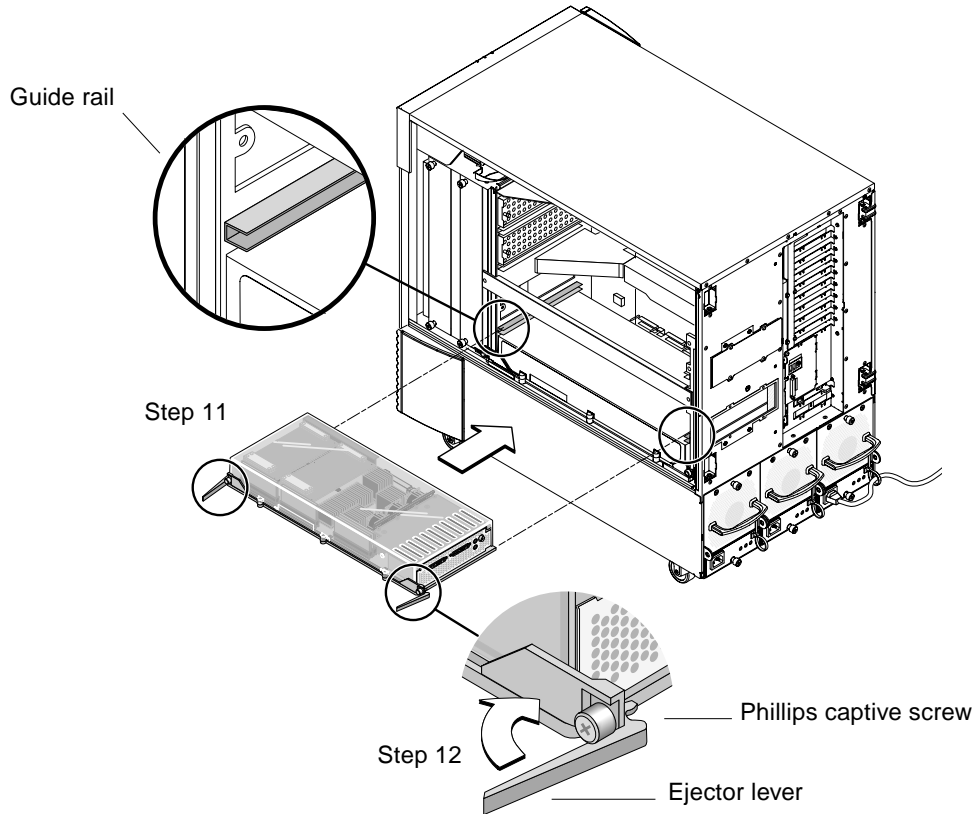

FIGURE 4-5 Installing the Sun XVR-4000 Graphics Accelerator Into Slot B Connectors
10. Make sure that the Sun XVR-4000 graphics accelerator ejector levers are rotated out to 90 degrees (FIGURE 4-5)